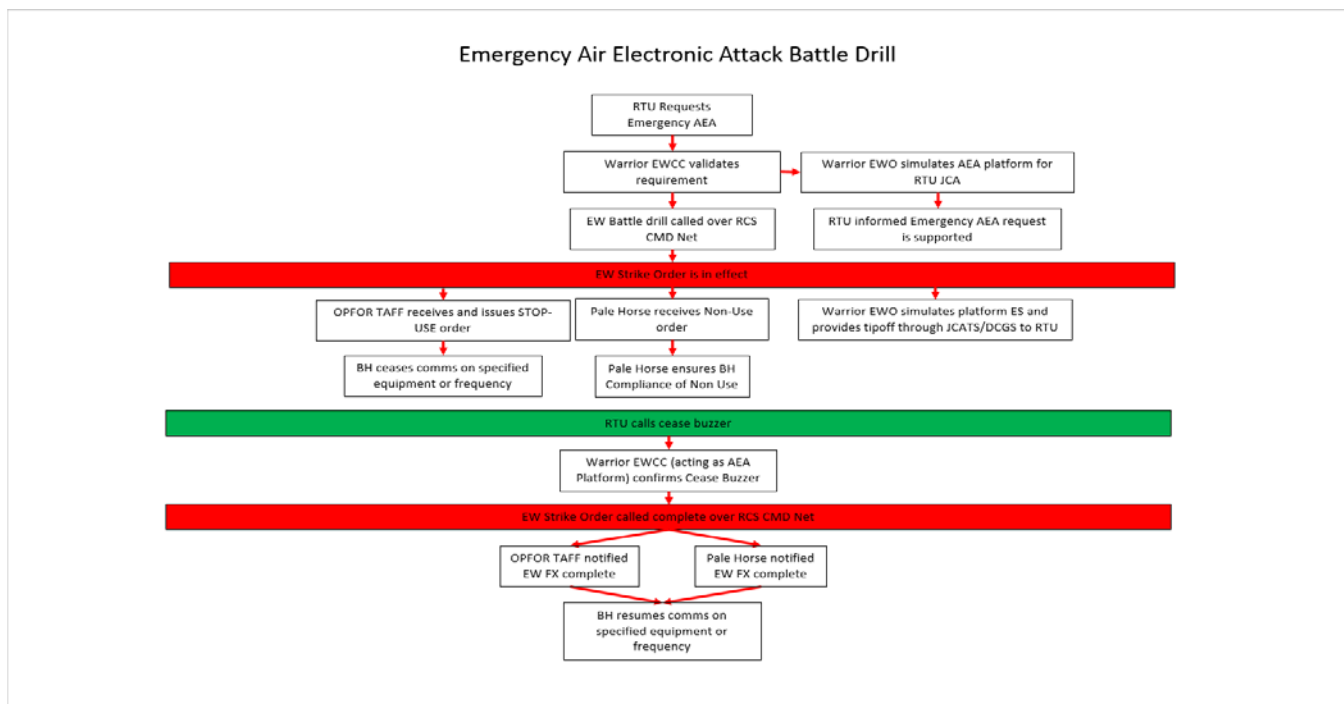

Figure 1.
2. **Requesting Procedures.** All requests for electronic attack (EA) must consist of the following: DD 1972, Joint Tactical Airstrike Request and Electronic Attack Request Form (EARF). A CONOP is required 24 hours prior to execution; submit CONOPs to DIV EWO.
6. **Cease Buzzer Procedures.** CEASE BUZZER (CB) procedures must be articulated in all EA requests to include CB FREQs (UHF/HF/FM) and JCA/JTAC call signs. All calls for CB must be verified by reason.
- b. When the EWCC deems that a request is valid and warrants support, there are multiple role-players that need to adhere to EW replication procedures in order to facilitate realistic EW effects. Figure 1 outlines the appropriate procedures for simulation a notional AEA asset.